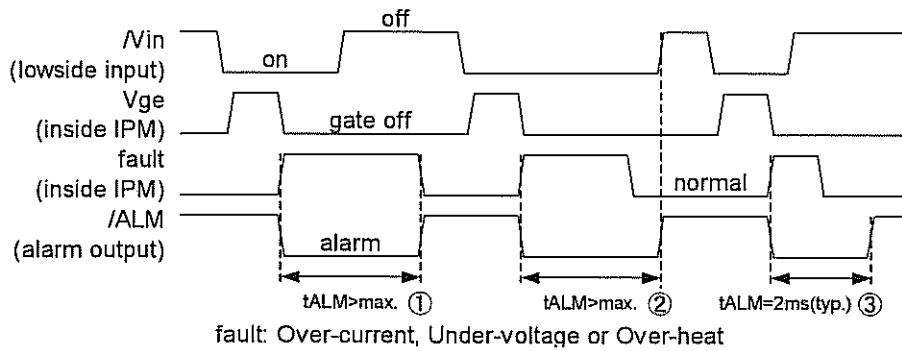

Figure2. Input/Output Timing Diagram.
| Alarm Signal Hold Time | t _{ALM} | ALM-GND Fig.2 | T _c =-20°C | 1.1 | - | - | ms |
Necessary conditions for alarm reset (refer to ① to ③ in figure2.)
- ① This represents the case when a failure-causing Fault lasts for a period more than t_{ALM} . The alarm resets when the input V_{in} is OFF and the Fault has disappeared.
- ② This represents the case when the ON condition of the input V_{in} lasts for a period more than t_{ALM} . The alarm resets when the V_{in} turns OFF under no Fault conditions.
- ③ This represents the case when the Fault disappears and the V_{in} turns OFF within t_{ALM} . The alarm resets after lasting for a period of the specified time t_{ALM} .